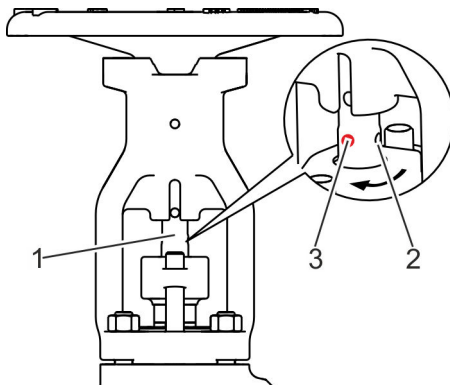

Fig. 41: Turning the stem 90 degrees
4. ➤ Insert the knock-out tool in the bore (Fig. 41/2).
5. ➤ Turn the stem (Fig. 41/1) by 90°, until the bore (Fig. 41/2) is aligned to the front (Fig. 41/3).
6. ➤ Use the knock-out tool to safeguard the stem (Fig. 41/1) against twisting, in the bore aligned to the front (Fig. 41/3).